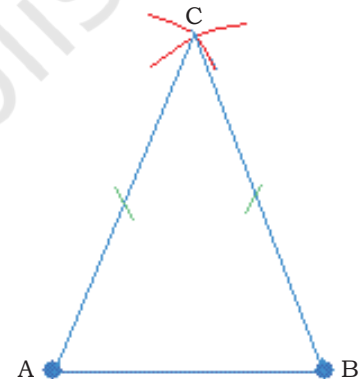

Fig. 1.16: Drawing an isosceles triangle
2. Open a compass more than the length of AB, place the compass needle at point A and draw an arc as shown in Fig. 1.16.